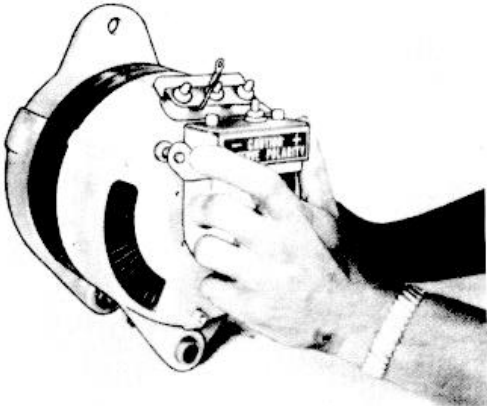

FIG. 4
3. Remove the four 8-32 screws securing the regulator brush housing in place. Remove the assembly. Refer to Figure 4.
3. Remove the four 8-32 screws holding the regulator and brush holder assembly in place. Carefully remove this assembly. (See Figure 4.)